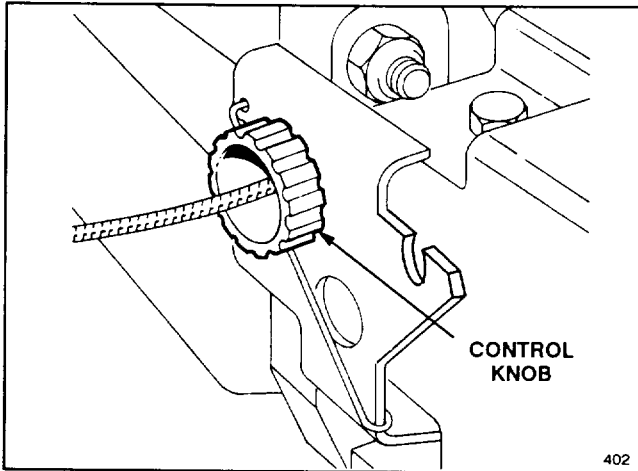

Figure 18
1. **ADJUSTMENT** (Fig. 18)—Rotate control knob clockwise 1/2 turn if mower does not self-propel. If mower creeps forward, rotate knob 1/2 turn counterclockwise to loosen belt.